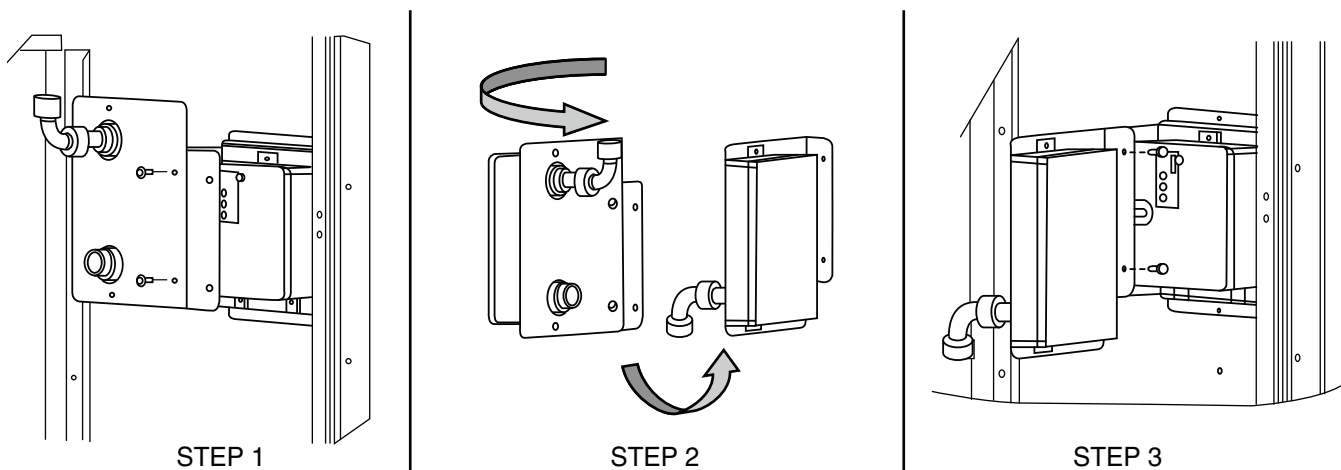

Fig. 70 — Completing Installation of Return Air Smoke Sensor
1. Unscrew the two screws holding the return air smoke detector assembly. See Fig. 70, Step 1. Save the screws.
2. Turn the assembly 90 degrees and then rotate end to end. Make sure that the elbow fitting is pointing down. See Fig. 70, Step 2.
3. Screw the sensor and detector plate into its operating position using screws from Step 1. See Fig. 70, Step 3.